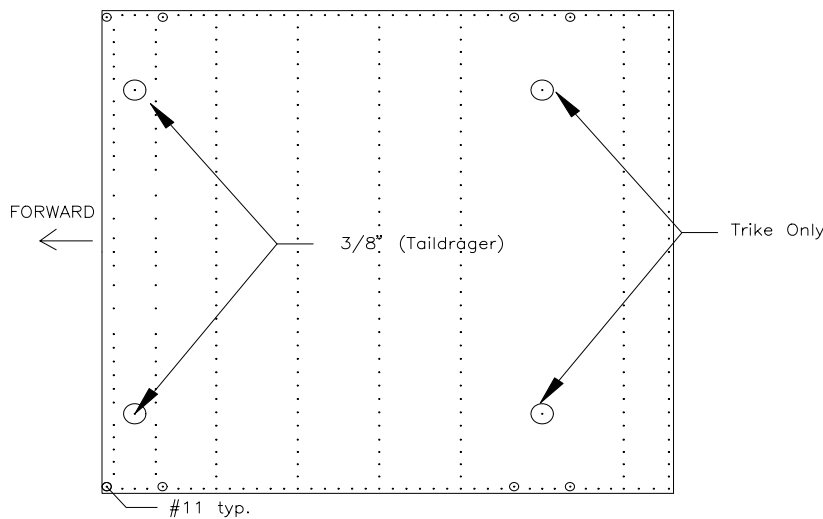

Figure 9.7.1.
- 1) Drill the punched holes indicated in Figure 9.7.1 to 3/8" and #11 on the FUS-432 Floor Skin.